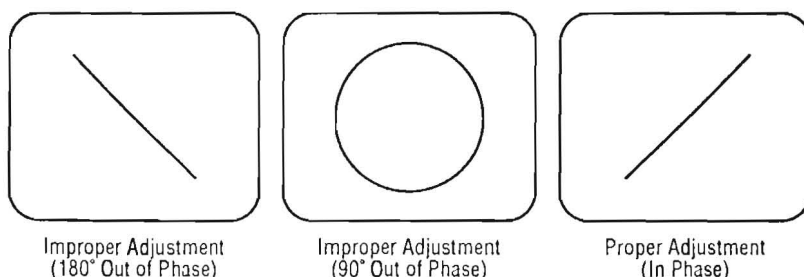

Figure 7-5
6. Adjust the Record Head Azimuth adjustment screw A2 until the display on the oscilloscope becomes a straight line at 45 degrees as shown in Figure 7-5.
7. Set the external oscillator to 10 kHz, and adjust the Record Head Azimuth adjustment screw until the display on the oscilloscope becomes a straight line at 45 degrees as shown in Figure 7-5.
8. Set the external oscillator to 16 kHz, and adjust the Record Head Azimuth adjustment screw until the display on the oscilloscope becomes a straight line at 45 degrees as shown in Figure 7-5.